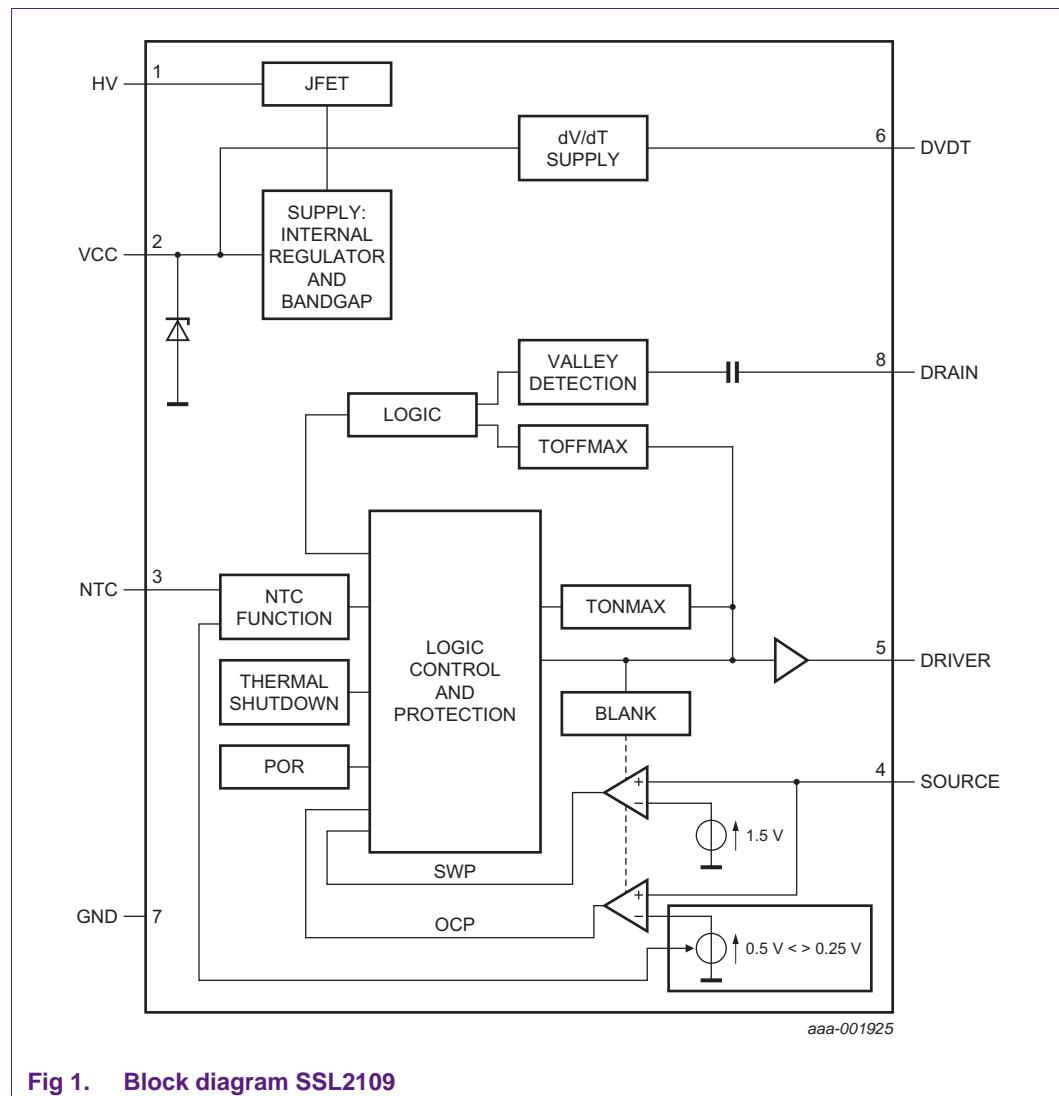

Fig 1. Block diagram SSL2109
The SSL2109 is a Multi-Chip Module (MCM) SO8 package. It can handle up to 600 V (DC) at pins HV and DRAIN. The main features for all variants are as follows (See Figure 1):